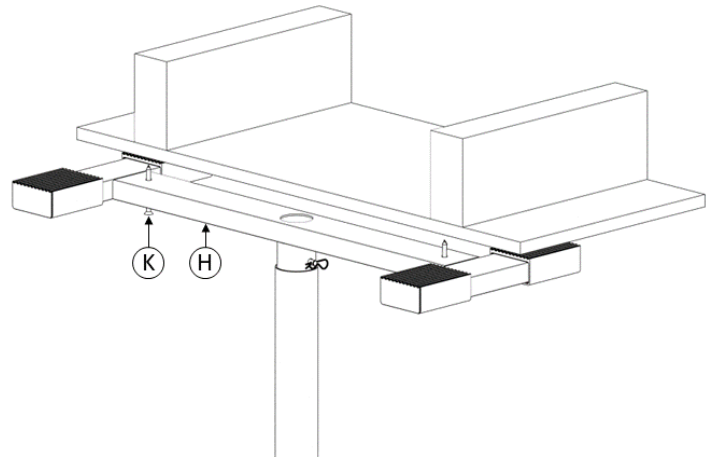

FIGURE 12
12. **OPTIONAL:** Use the provided screws, **K**, ensuring that **K** goes into the Ceiling Joists, as shown in *FIGURE 12*.